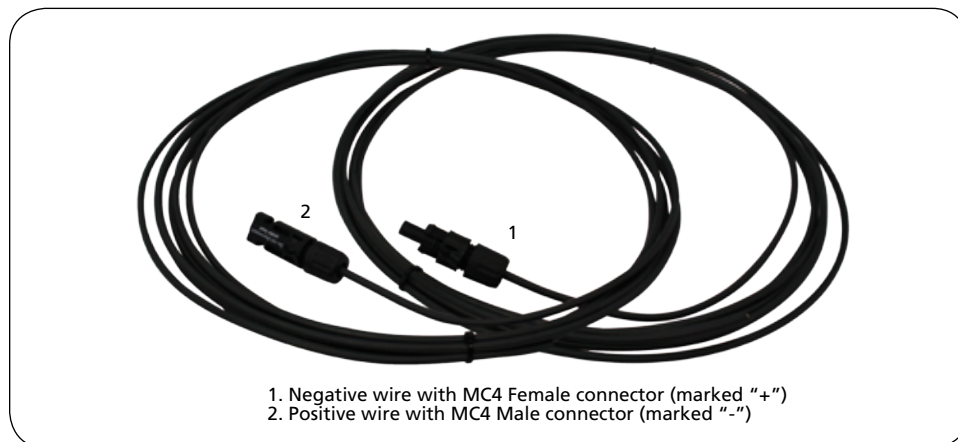

Fig. 8.4. Solar Panel Connecting Wires kit "SCW-20-2"
3. Solar Panel Connecting Wires kit "SCW-20-2" consisting of 2 pre-assembled, 20 ft, AWG #12, Positive (+) & Negative (-) PV extension wires have been provided (see Fig. 8.4). The wires have MC4 mating connectors on one end for connecting to the solar panel & bare ends on the other side for connecting to the Charge Controller. The wires are marked (+) & and (-) for identification of the polarity.